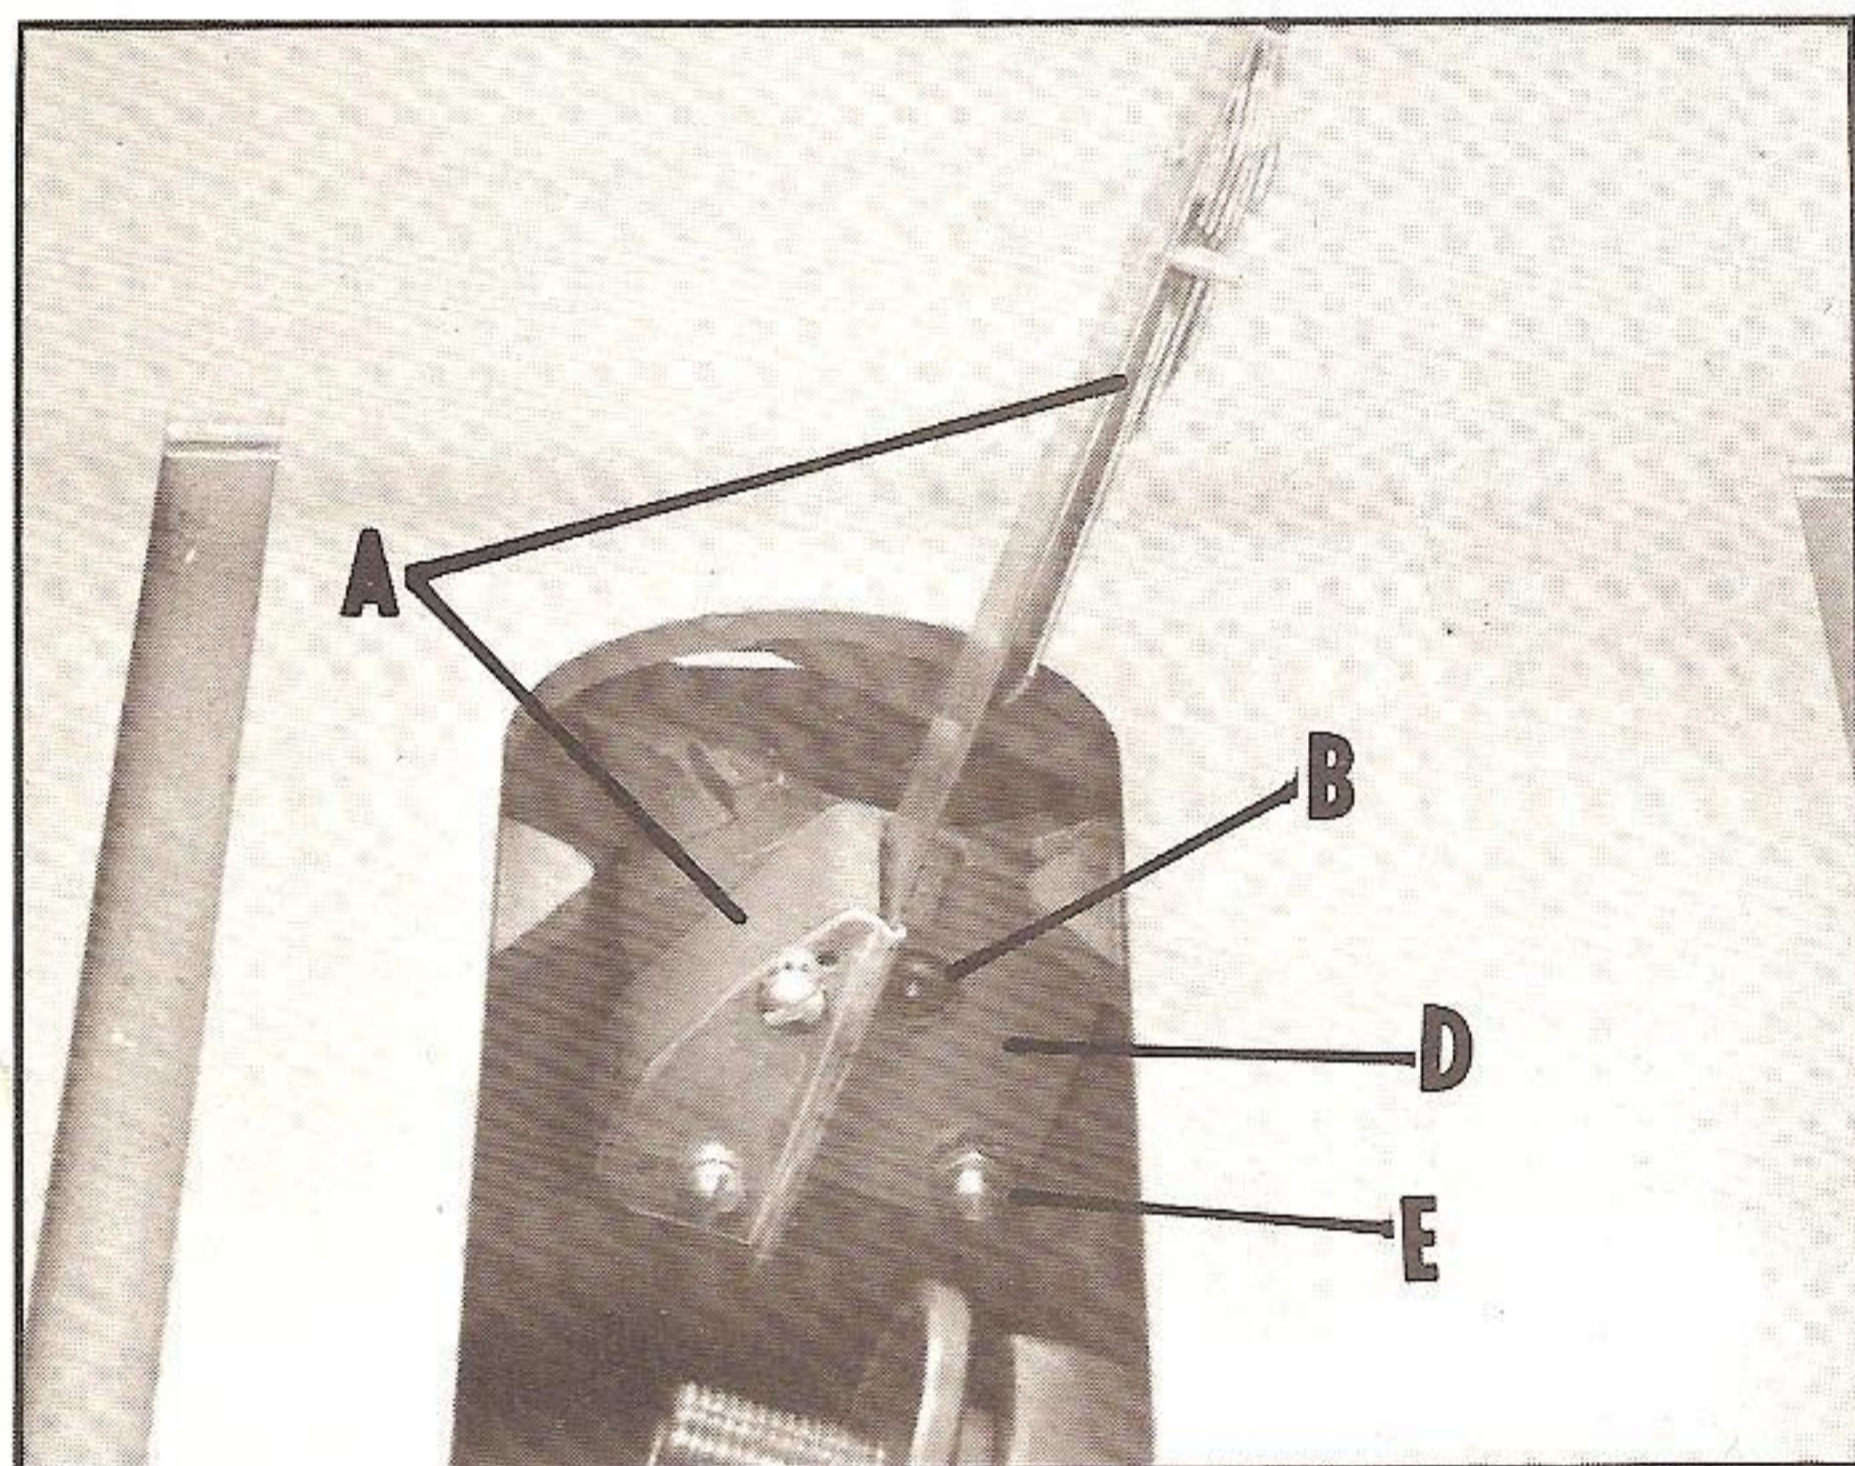
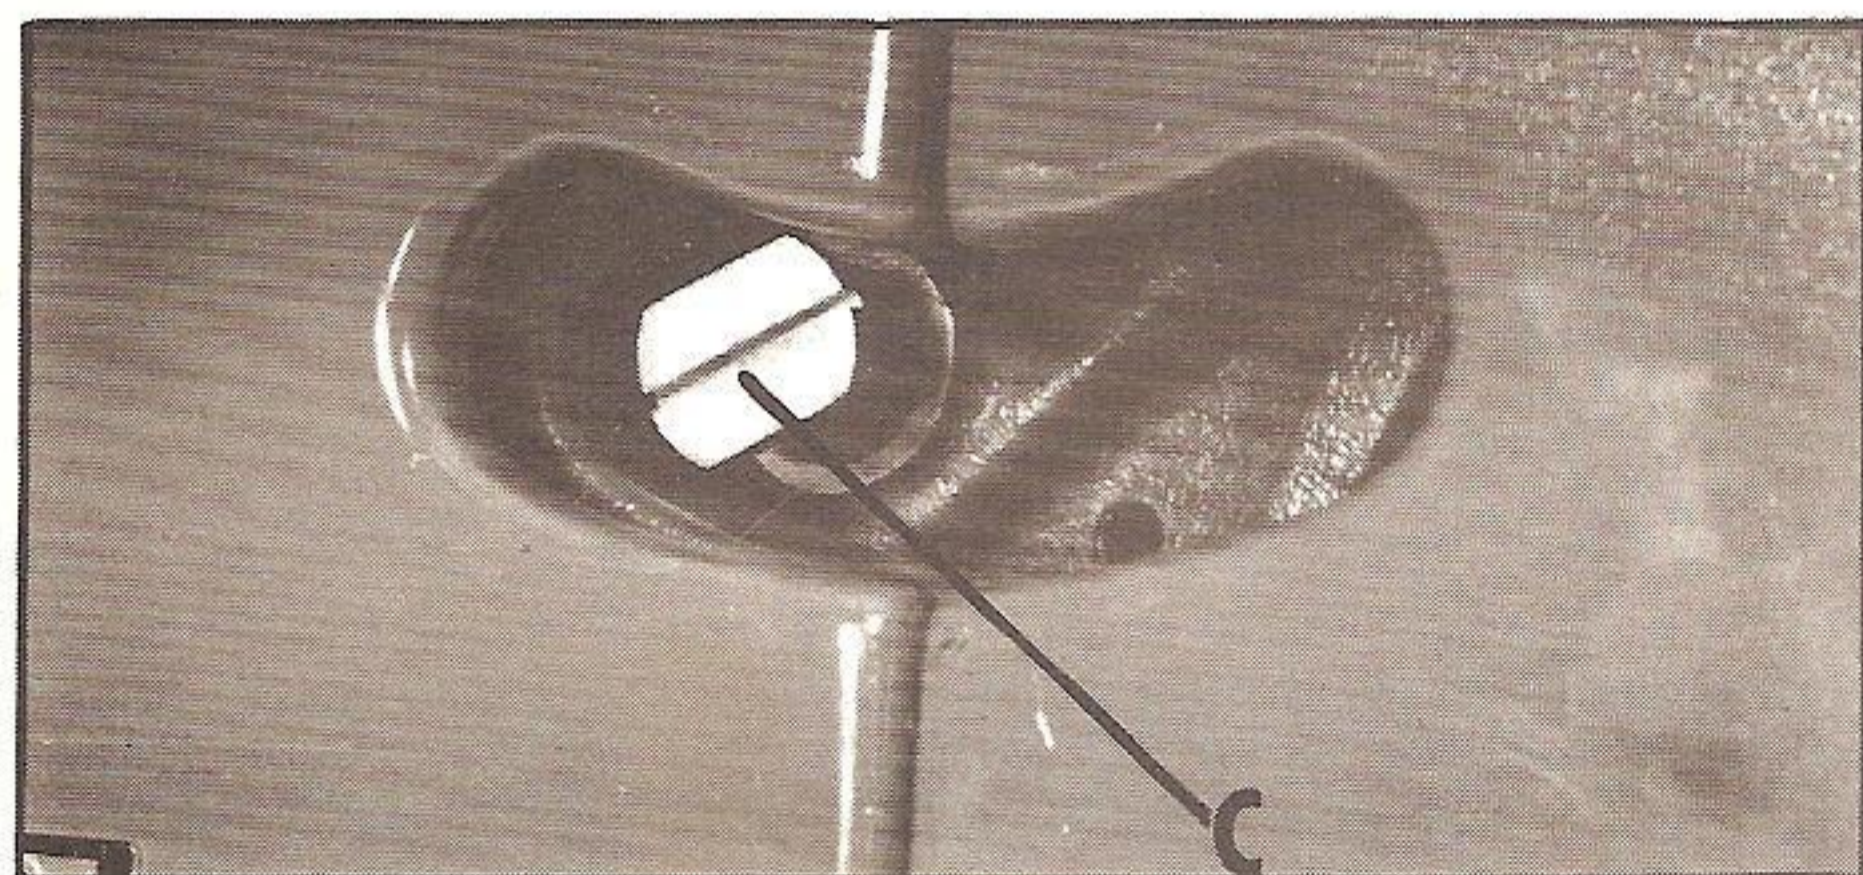

Fig. 14
Fig. 15
3. Tilt the saw arbor to the right and assemble the splitter assembly (A) Fig. 14, to the rear trunnion using the button head socket cap screw (B).
4. Insert the special screw (C) Fig. 15, through the hole in the rear trunnion as shown, and through the hole in the splitter bracket (D) Fig. 14, and fasten in place with the external tooth lockwasher and jam nut (E) Fig. 14.